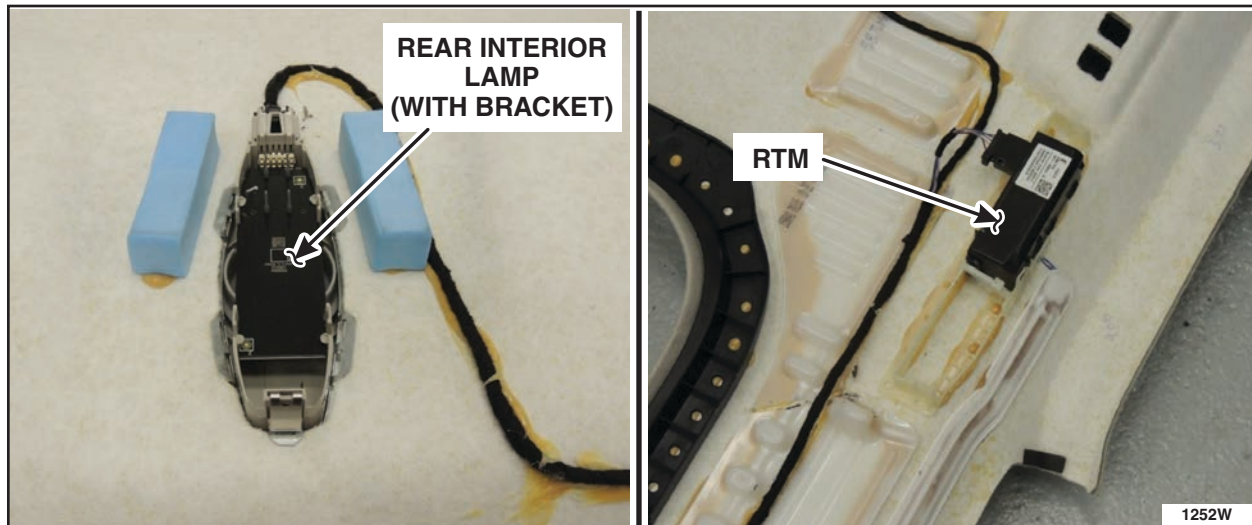

FIGURE 22
4. Transfer the rear interior lamp, Radio Transceiver Module (RTM) and brackets to the *new* headliner. See Figure 22.